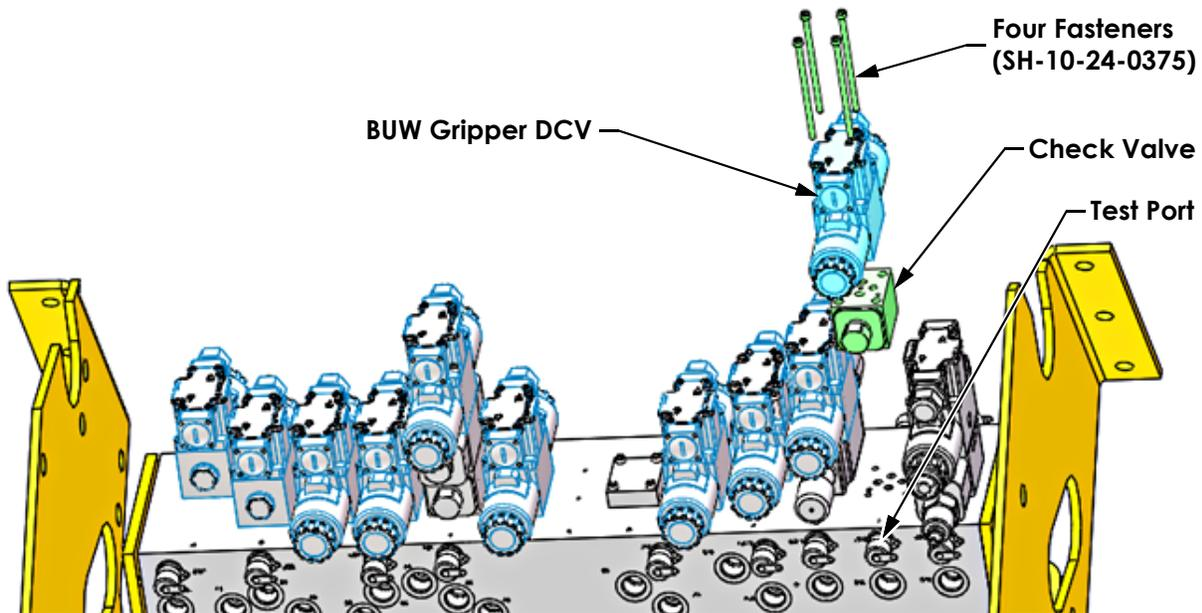

Figure 6: Installing check valve
- Using the fasteners from the kit, install the check valve assembly (P/N: H07-1010-030) between the BUW gripper DCV and the hydraulic manifold as shown in Figure 6. Torque the fasteners to 6.5 ft-lbs using Loctite[®] 242.
Check valve knob must be oriented toward the hydraulic manifold test port as shown in Figure 6.